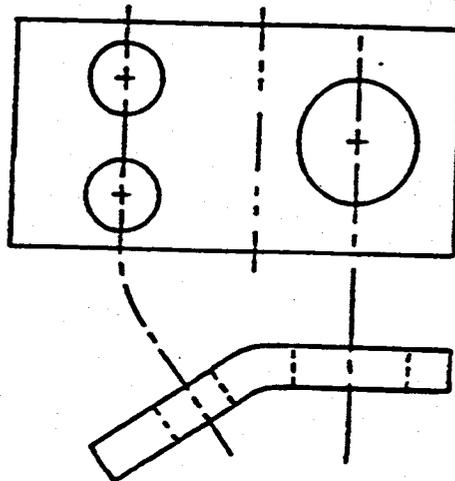

Fig 1-23. Rotation.
b. Rotation. Occasionally, if no confusion will result from the practice, a separate auxiliary view is omitted and a side or top view is provided. This is drawn as if the object were bent to bring the slanted surface parallel to the drawing plane (fig 1-23). This is called a rotation, and the fact that it has been done will be indicated in some manner on the drawing. In figure 1-23, for example, the fact that one view is higher than the other, plus the curvature of the upper center line shows immediately that the right hand view is a rotation.